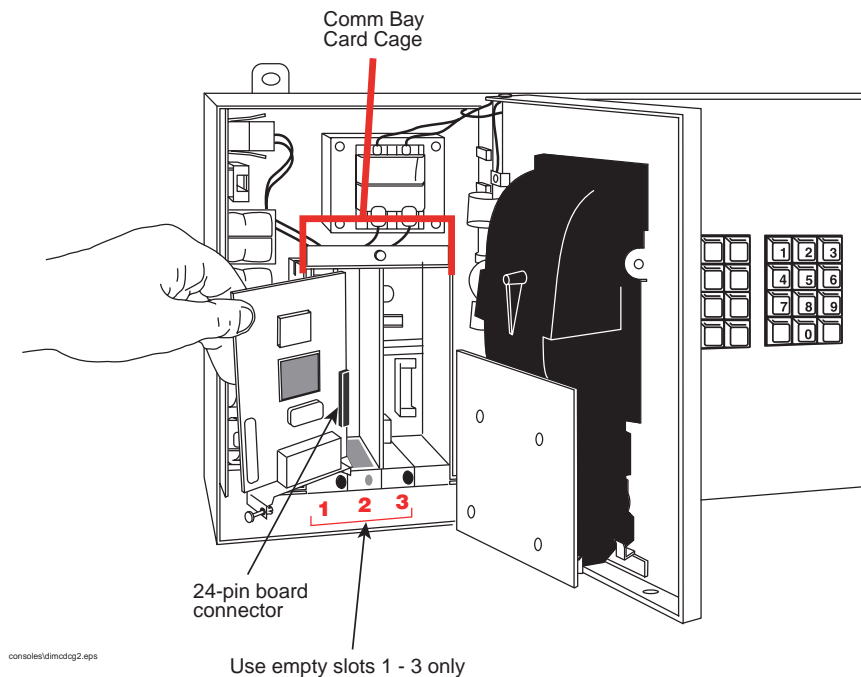

Figure 2. SS-LAN Interface Module Card Installation
4. Hold the interface module with its snap-in fastener positioned at the lower edge and carefully slide the module into its slot (see Figure 2 on page 6).